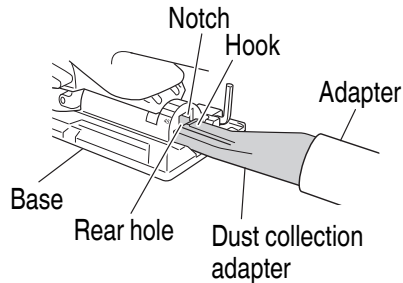

Fig. 22
- (5) Insert dust collection adapter into the rear hole of the base until the hook catches in the notch. **(Fig. 22)**
- (6) Press the hook to remove the dust collection adapter.